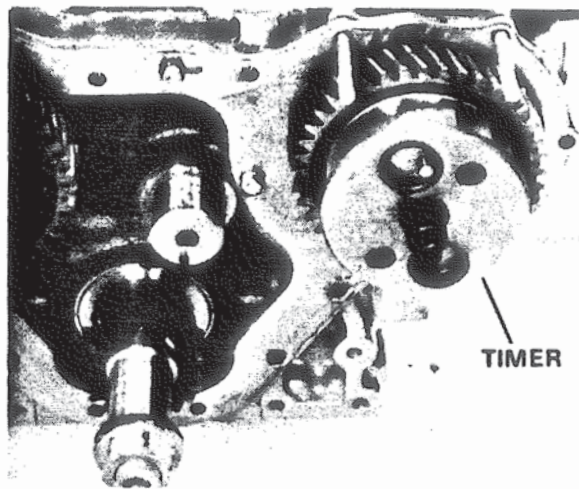

Figure 66. Installing Automatic Timer.
E. Place automatic timer on injection pump driveshaft and secure with round nut. Torque to 6-7 kg/m (43.5 to 50.7 ft. lbs.). Figure 66.